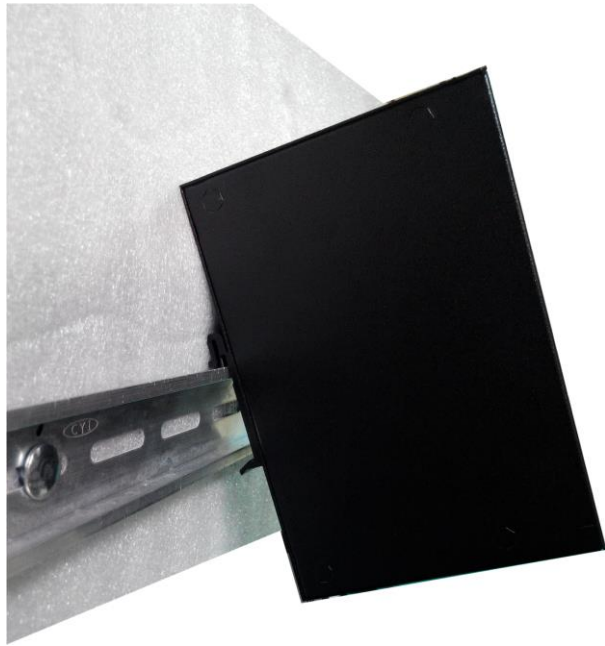

Figure 3.2: Insert the Switch on the DIN-Rail
Step 3. After the DIN-Rail bracket is installed on the rear side of the switch, insert the top of the DIN-Rail on to the track as shown below in Figure 3.2.